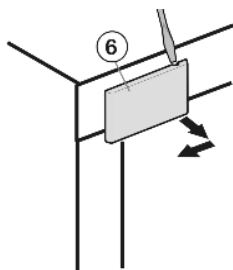

Fig. 23
- ▶ Loosen cover that is on the handle side *Fig. 23 (6)* using a screwdriver and remove by pulling outwards.